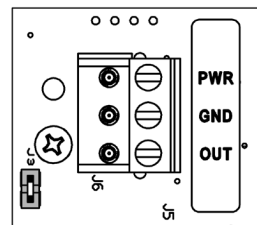

Fig. 4: J3 Set for 0 to 10 VDC Output
**Note:** The CO2 Output may be field configured for 0 to 5 or 0 to 10 VDC outputs at any time. Set the Jumper on J3 as shown in Fig. 4 & 5 below.